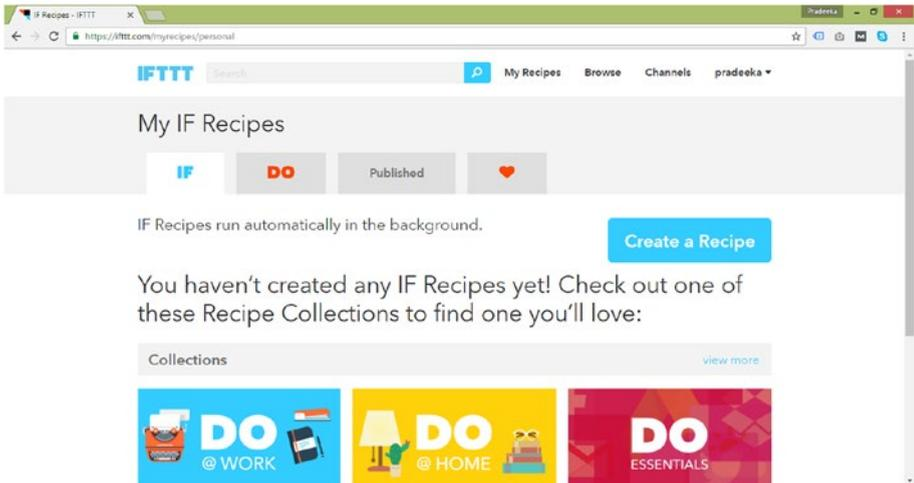

Figure 8-10. Create a recipe
2. Click the **Create a Recipe** button, as shown in Figure 8-10.